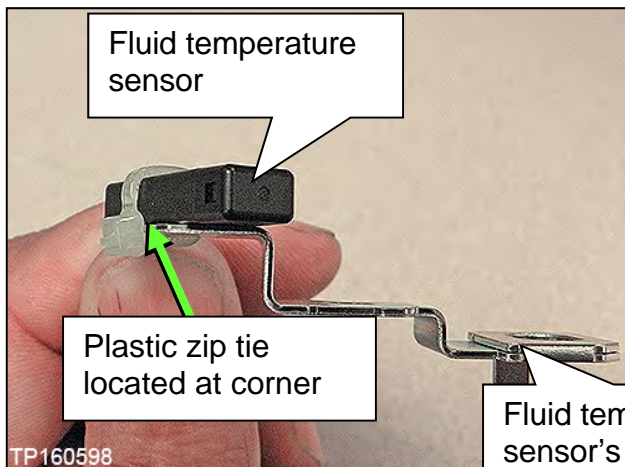
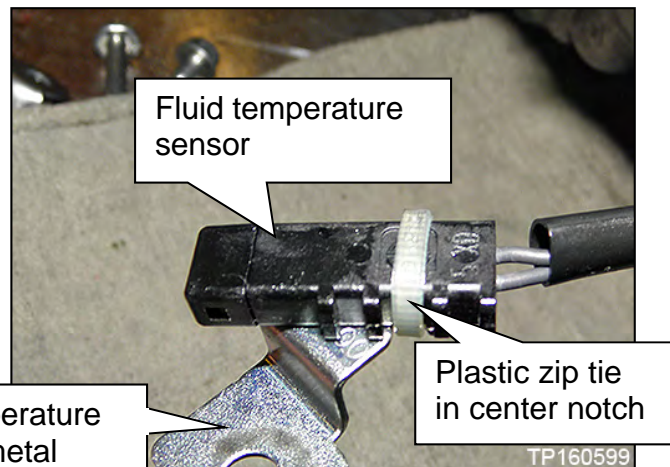

Figure 157
Figure 158
- a. Cut the old plastic zip tie with an appropriate tool to remove the fluid temperature sensor's metal bracket from the terminal harness assembly (Figure 157 and Figure 158).
- Secure the plastic zip tie at the center notch of three notches on the fluid temperature sensor (Figure 157).
- Tighten the plastic zip tie so that it is oriented as shown in Figure 158.